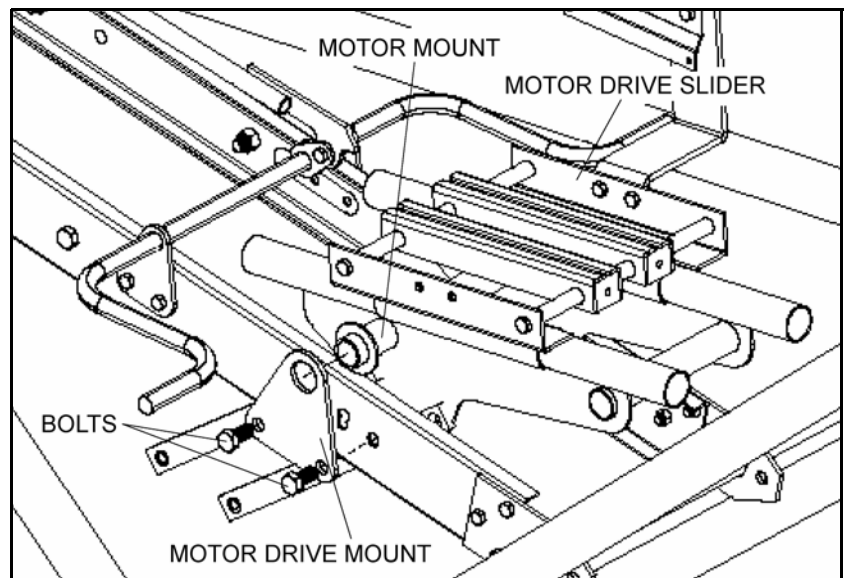

Figure 3.31 Motor Mount on Frame
- Install motor mount on frame by sliding into motor drive mount as shown in Figure 3.31. Install second motor drive mount on right side of motor mount using two 5/8" x 1-1/2" bolts and locknuts.
8. Use a light grease to lubricate tubes on top of motor mount. Slide the motor drive slider onto the motor mount as shown in Figure 3.31.